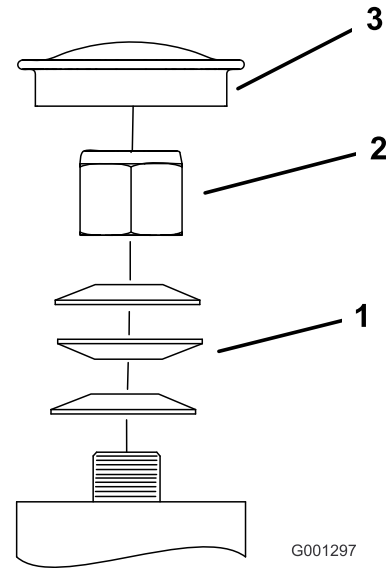

Figure 63
3. Remove the dust cap from caster and tighten lock nut (Figure 63).
4. Tighten the locknut until the spring washers are flat and then back off a 1/4 turn to properly set the pre-load on the bearings (Figure 63).
Important: Make sure the spring washers are installed correctly as shown in Figure 63.
5. Install the dust cap (Figure 63).